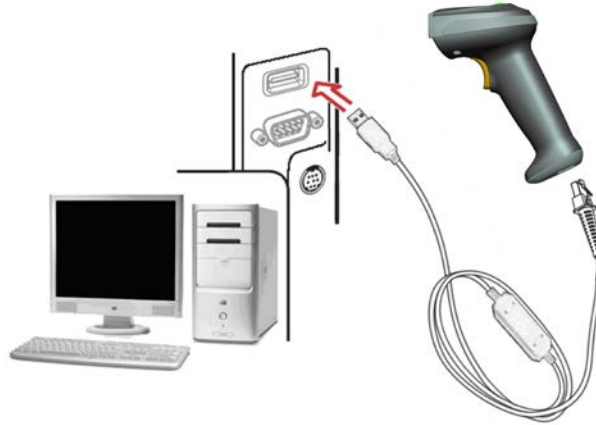

Figure 2-3
1. Refer to Figure 2-3, connect the USB interface cable to the bottom of the scanner.